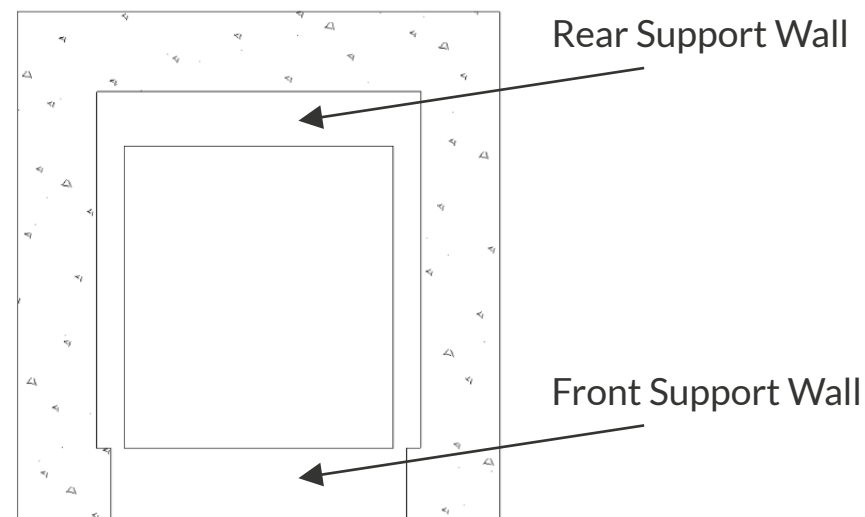

Figure 2 (upper view)
2. The Rear Structure should be the first item to be installed. For its installation, the grill must have a rear wall with a 10cm thickness level with the front wall of the masonry, which will serve as support, as shown in Figure 2.